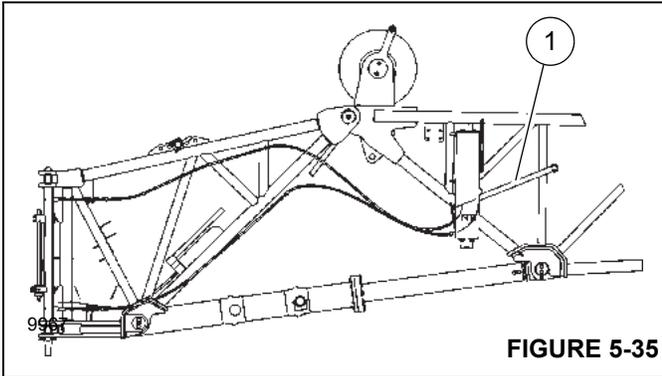

FIGURE 5-35
7. If necessary, raise the front mounting pin handle (1, Figure 5-35) to unlock the boom extension installation pins.